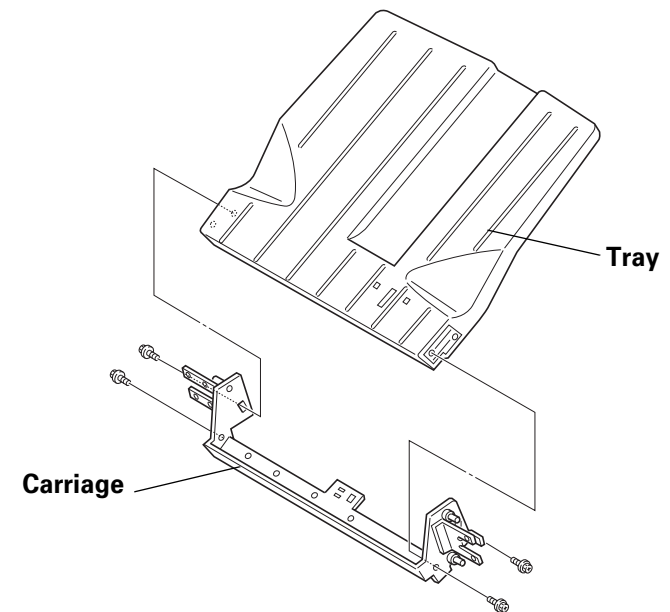

Figure 2
6. Remove four screws securing the Carriage to the Tray and remove the Tray. (Figure 2)